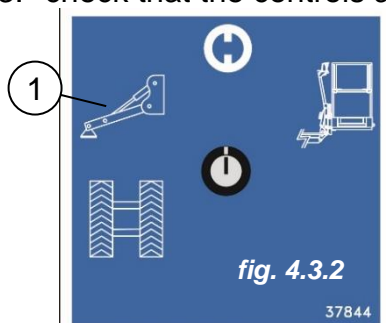

fig. 4.3.3
4. move to the panel found in the centre of the work platform and check that the power indicator light is on (*pos. 2 fig. 4.3.3*)
5. check that the stabiliser indicator light is not on: This would mean there is a fault with the stabiliser limit switches (*pos. 4 fig. 4.3.3*).
5. check that the indicator light (*pos. 4 fig. 4.3.3*), which indicates that it is possible to raise the boom, is On.